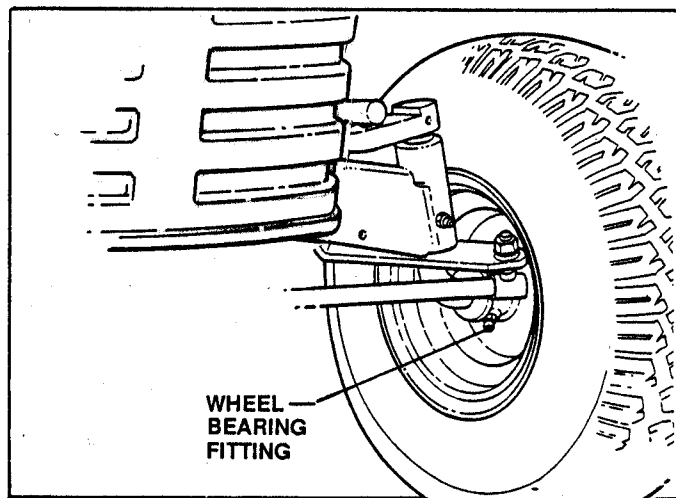

FIGURE 13
- FRONT WHEEL BEARINGS: Lubricate bearings through the fitting on hub of each front wheel. See Figure 13.